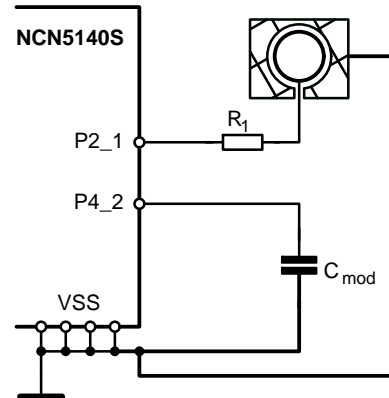
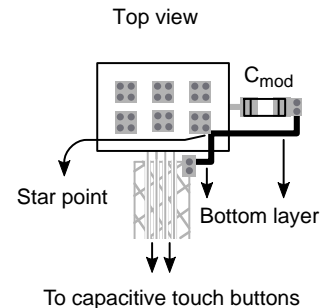

Figure 17. Schematic Representation of connecting the Different Grounds at a Single Star Point
Figure 18. Capacitive Touch related Grounds Star Connected under the Chip
- Make sure that the capacitive sensing ground planes are all connected to a central point (star topology). This includes the hatched ground planes surrounding the buttons and the ground connection of the C_{MOD} integrating capacitor. Figure 17 and Figure 18 show how this can be done for the NCN5140S.
The ground connection of the C_{MOD} capacitor and the ground hatches must first be routed to the four bottom ground pads of the NCN5140S as shown in Figure 18. Then everything can be connected to the rest of the ground copper. When using a top and bottom hatch, only one of the two is routed to the central pads. Both hatches are via stitched together.